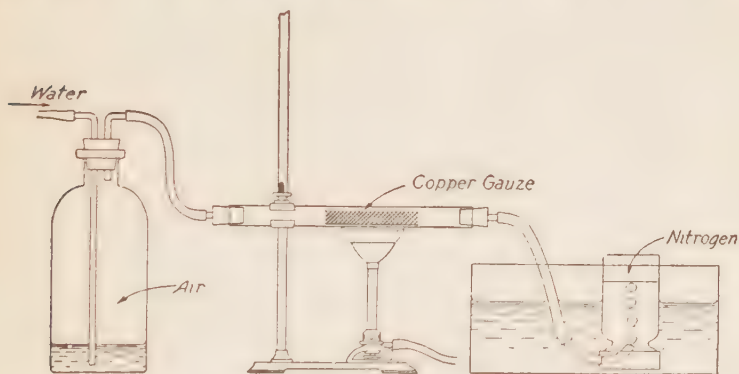

FIG. 27.
a. (Two students working together.) Set up the apparatus as shown in Fig. 27. and connect the rubber tube on the left with the water supply. Roll up the copper gauze and insert it in the middle of the hard glass tube.